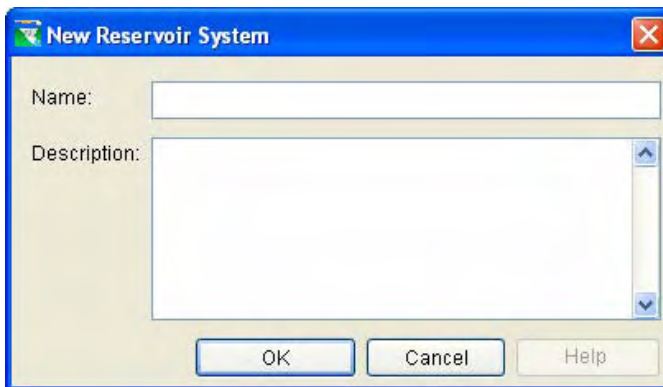

Figure 12.14 New Reservoir System
1. From the **ReservoirSystem** menu, select **New System**. The **New Reservoir System** dialog box will open (Figure 12.14).